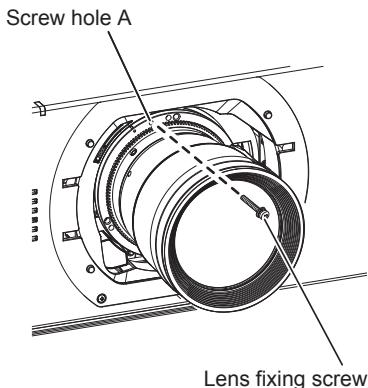

Fig. 3
3) Secure the projection lens with the supplied lens fixing screw. (Fig. 3)